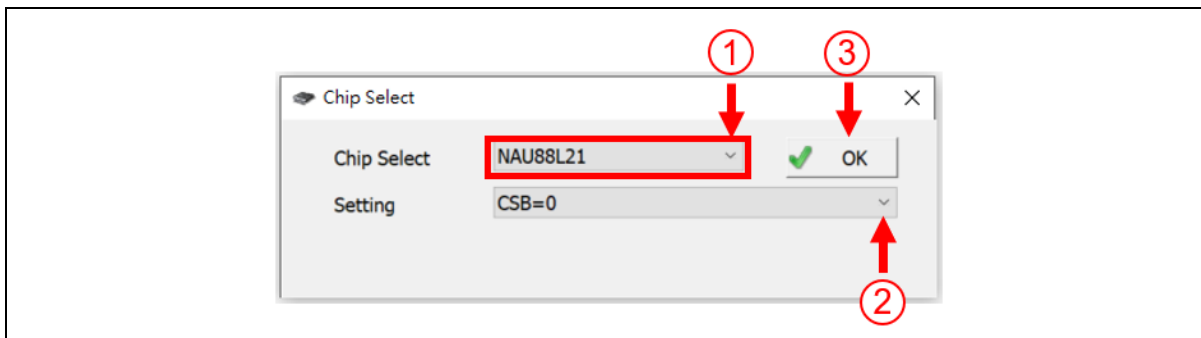

Figure 3-4 NuvotonAudioGUI Operating Step (1)
1. Open NuvotonAudioGUI, choose the corresponding IC Part Number, CSB setting (default as 0), and click [OK], as shown in Figure 3-4.